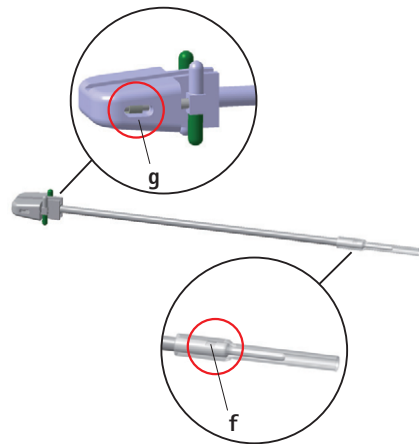

Fig. 4
- Adjust the safety stop to the central position **g**, see Fig. 4.